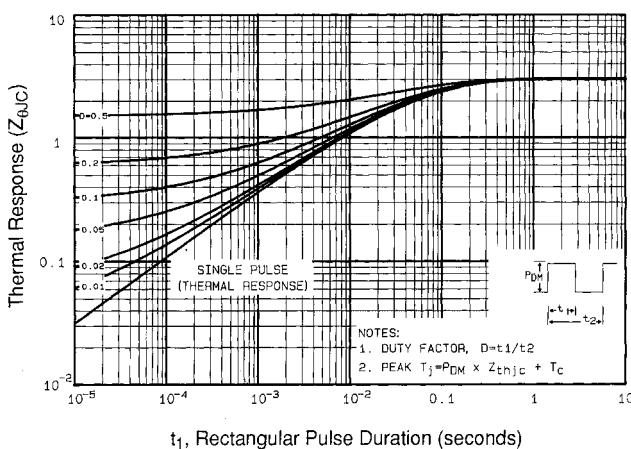

Fig 11. Maximum Effective Transient Thermal Impedance, Junction-to-Case
① Repetitive rating; pulse width limited by max. junction temperature (See Figure 11)
③ $I_{SD}\leq 3.8\text{A}$, $di/dt\leq 90\text{A}/\mu\text{s}$, $V_{DD}\leq V_{(\text{BR})\text{DSS}}$, $T_J\leq 150^\circ\text{C}$
② $V_{DD}=50\text{V}$, starting $T_J=25^\circ\text{C}$, $L=14\text{mH}$